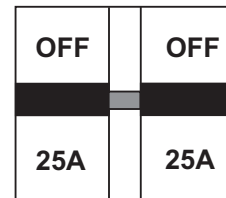

Figure 16. Main Circuit Breaker (OFF)
3. **NEVER** start the engine with the main circuit breaker in the **ON** position. Always place circuit breaker (Figure 16) in the **OFF** position before starting.